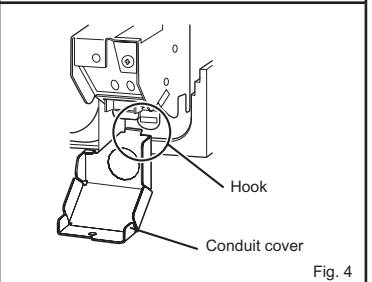
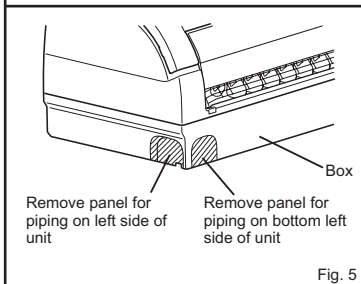

Fig. 4
Fig. 5
- 8) Secure indoor/outdoor unit connecting wire (A) and the ground wire with conduit cover. Never fail to hook the claw of the conduit cover to the electrical box. Attach the conduit cover securely. (Fig. 4)
- 9) According to the piping direction, remove the shaded part of the left side of box (Fig. 5) or corner box (Fig. 6). Reinstall corner box and front panel.
- Insert the drain hose fully into the drain pan at the back right of the indoor unit. (Fig. 4)
- Insert the drain hose into wall hole sleeve (C), and attach the upper part of indoor unit onto the installation plate (1). Then, shift the indoor unit completely to the left to make placing the piping in the back of the unit easier.
- Cut out a piece of cardboard from the shipping box, roll it up, hook it onto the back rib, and use it as a spacer to lift the indoor unit. (Fig. 5)
- Connect the refrigerant piping with the extension pipe (B).
- Attach the lower part of the indoor unit into the installation plate (1).
- 4) Flaring work (Fig. 4, 5). Firmly hold copper pipe in the dimension shown in the table. Select A mm from the table according to the tool you use.